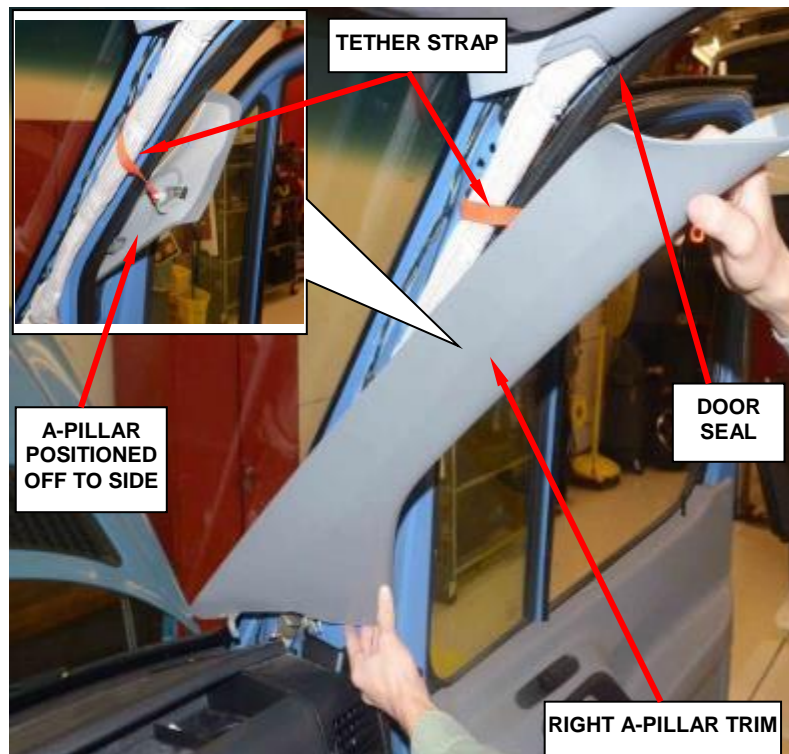

Figure 188 – Right A-Pillar Trim
9. Remove the right A-Pillar trim and position off to the side (Figure 188).